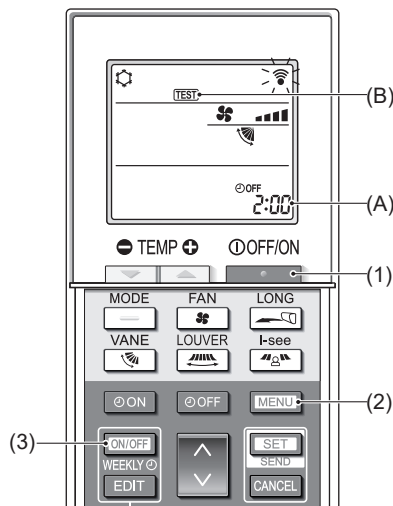

Fig. 7-5
■ Test run (Fig. 7-5)
- Press the (1) to stop the air conditioner.
- If the weekly timer is enabled (**WEEKLY** is on), press the (3) to disable it (**WEEKLY** is off).
- Press the (2) for 5 seconds.
- Press the (2).
- TEST** (B) comes on and the unit enters the test run mode.